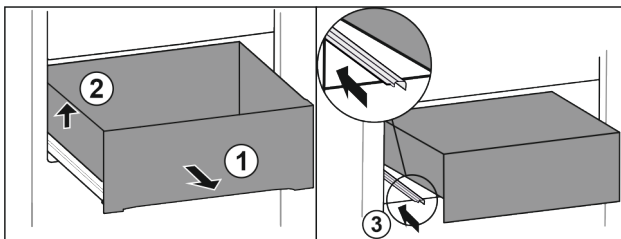

Fig. 90
- ▶ Pull out drawer as far as it will go. Fig. 90 (1)
- ▶ Lift drawer on the left. Fig. 90 (2)
- ▶ Insert left rail. Fig. 90 (3)